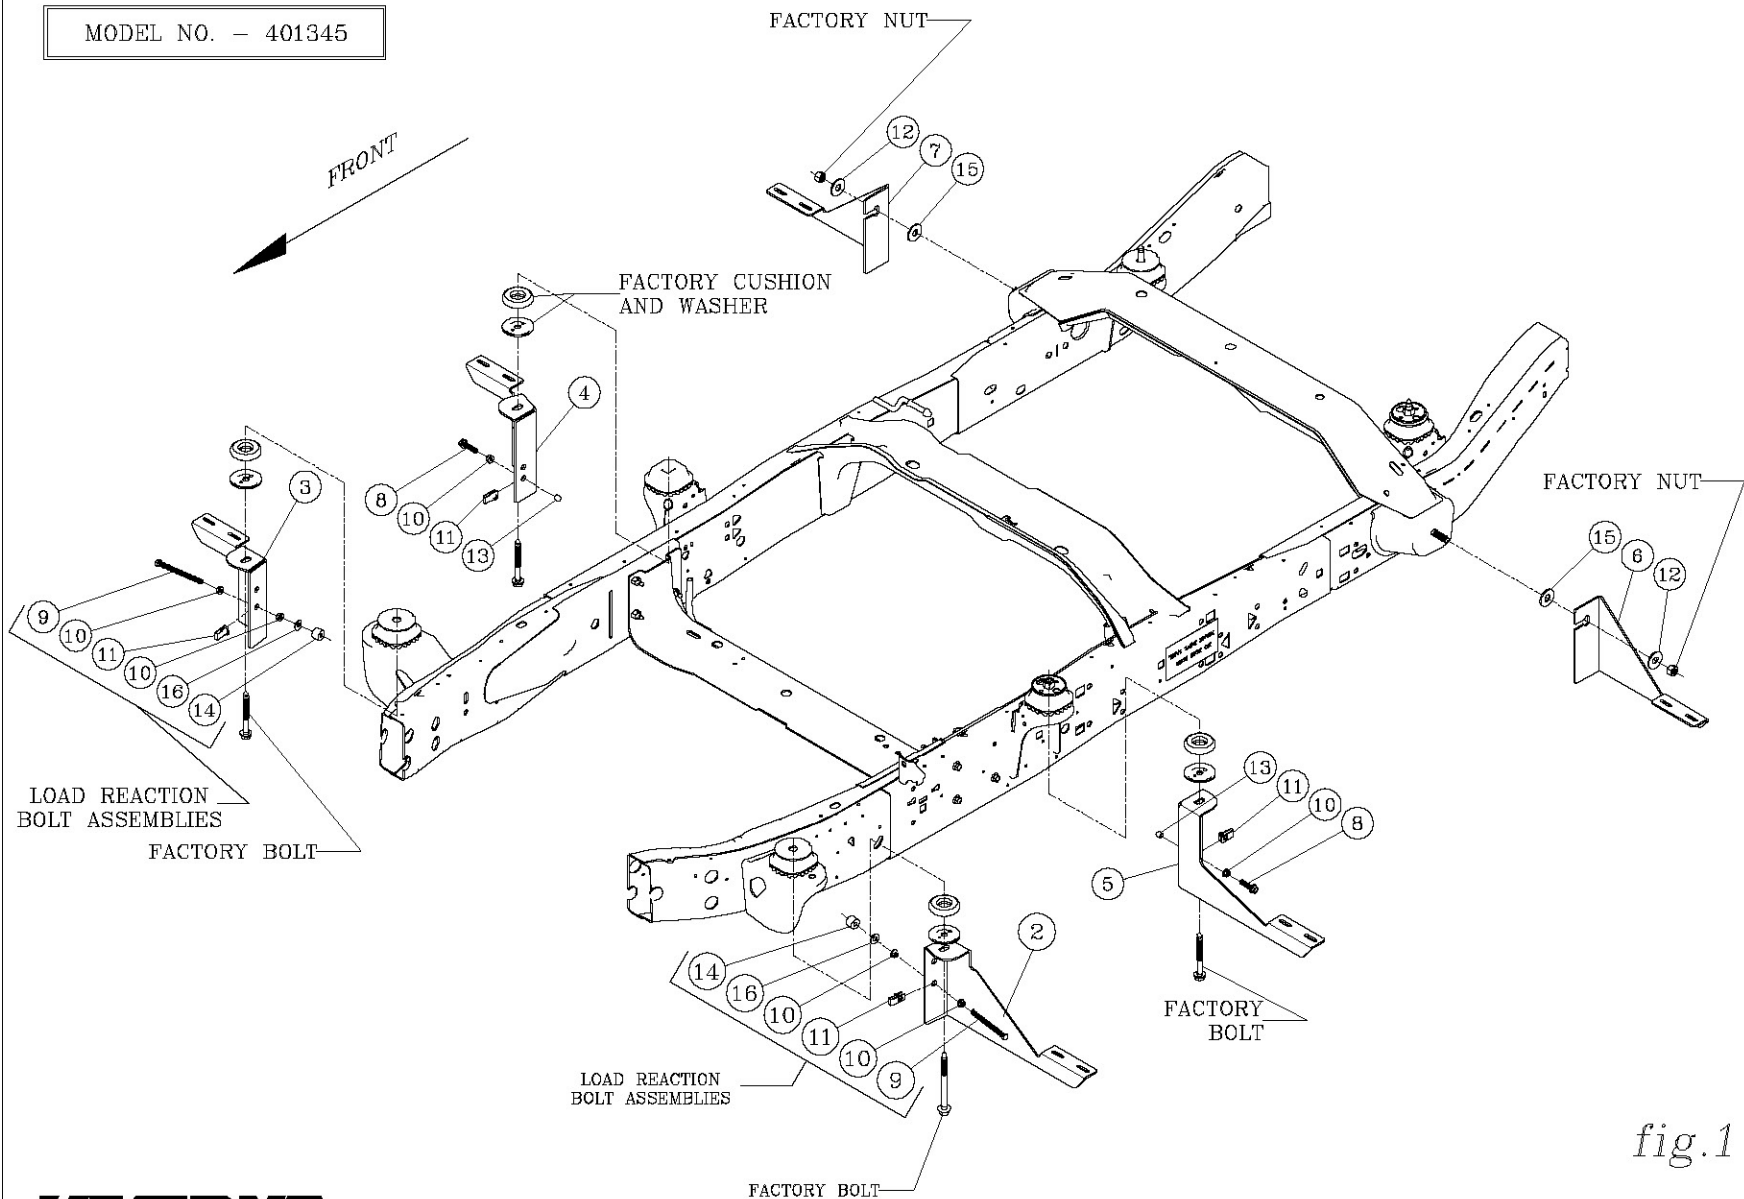

fig.1
4. INSTALL A 3/8"-16 SERRATED FLANGE NUT (ITEM #10) ON THE 3/8"-16 X 5" HEX BOLT (ITEM #9) WITH THE FLANGE FACING TOWARD THE END OF THE BOLT AND TURN ON JUST SHORT OF THE HEAD. SCREW THE BOLT INTO THE U-NUT AND WHEN IT COMES THROUGH THE OTHER SIDE START ANOTHER FLANGE NUT FACING THE SAME DIRECTION AS THE FIRST NUT. TURN THE NUT ON UNTIL THERE IS 3/4" PROTRUDING FROM THE FACE OF THE NUT, INSTALL A 3/8" FLAT WASHER (ITEM #16) AND THE .354 X 1.00 X .748 RUBBER WASHER (ITEM #14) INTO THE END OF THE BOLT. ADJUST THE LOAD REACTION BOLT ASSEMBLY SO THAT THE RUBBER CUSHION IS SNUG AGAINST THE FRAME AND TIGHTEN DOWN THE OUTSIDE FLANGE NUT. (LOAD REACTION BOLT ASSEMBLY) AS SHOWN IN *fig. 1*.
8. INSTALL A 3/8"-16 SERRATED FLANGE NUT (ITEM #10) ON THE 3/8"-16 X 1-3/4" HEX BOLT (ITEM #8) WITH THE FLANGE FACING TOWARD THE END OF THE BOLT AND TURN ON JUST SHORT OF THE HEAD. SCREW THE BOLT INTO THE U-NUT AND WHEN IT COMES THROUGH THE OTHER SIDE ADJUST THE LOAD REACTION BOLT ASSEMBLY SO THAT THE RUBBER PLUG IS SNUG AGAINST THE FRAME AND TIGHTEN DOWN THE OUTSIDE FLANGE NUT. (LOAD REACTION BOLT ASSEMBLY) AS SHOWN IN *fig. 1*.